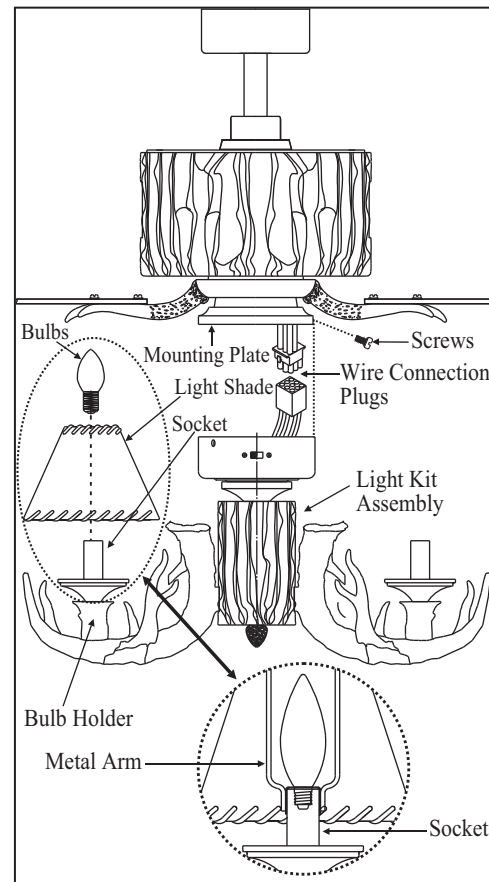

Figure 18
5. Carefully push all wires back into the switch housing, then install the light kit assembly onto the mounting plate with 3 screws provided. Be sure to tighten all screws. (Fig. 18)
be sure to position the metal arms on the top of sockets correctly, the incorrect installation may cause the touch of light shades and light kit and scratch the light shade. (Fig. 18)